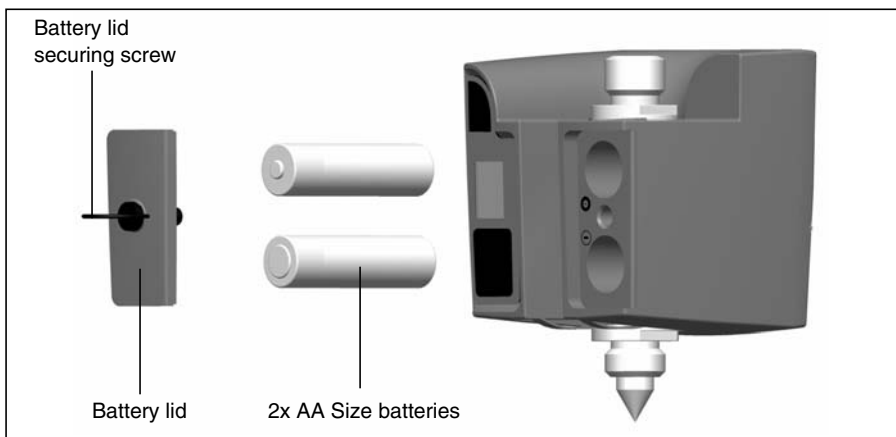

Figure 7.61 Target ID battery change
4. Fit the battery lid and then secure it by turning the screw a quarter of a turn clockwise. See figure 7.61